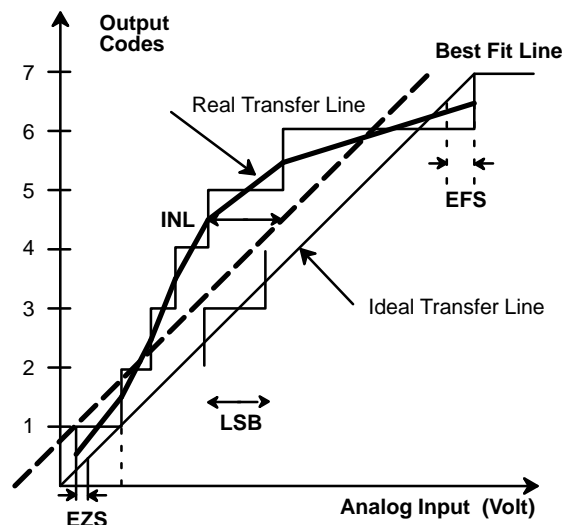

Figure 9. INL Error Calculation (Exaggerated for Visualization)
- ³ See V_{IN} input equivalent circuit (see Figure 9.).